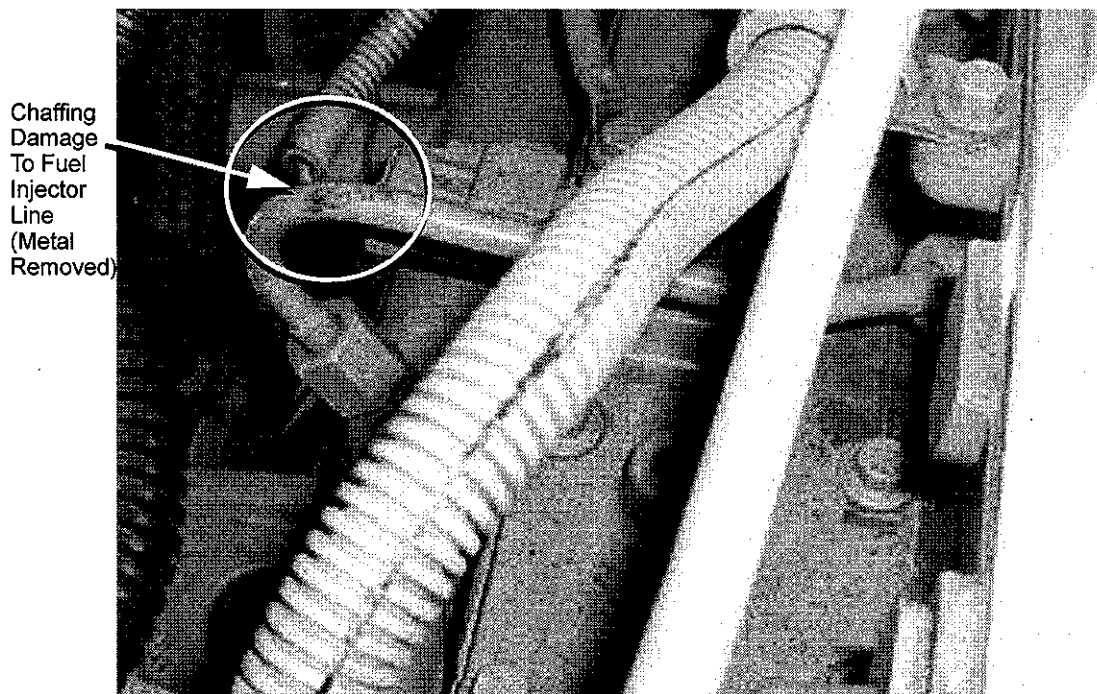

FIGURE 1-2 CHAFFING DAMAGE TO FUEL INJECTOR LINE
4. Inspect the #3 and #4 fuel injector lines for chaffing damage as shown in Figure 1-2. If any metal has been removed, replace the fuel injector line as indicated in "Fuel Injector Line Replacement" on page 6.